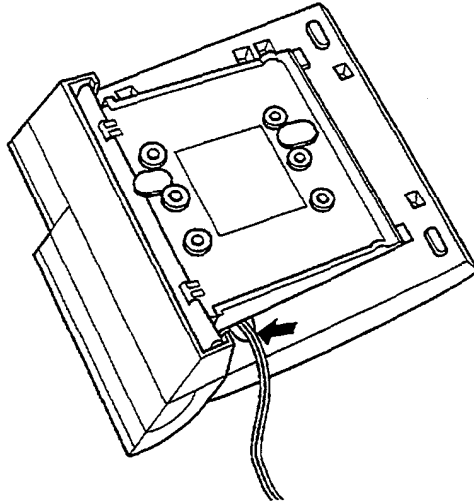

Figure 1-76 Lead the Telephone Cord out from the ADA-U Unit
6. Lead the Telephone cord out through the groove on the tilt panel. Plug in the telephone cord. Refer to Figure 1-76 Lead the Telephone Cord out from the ADA-U Unit.